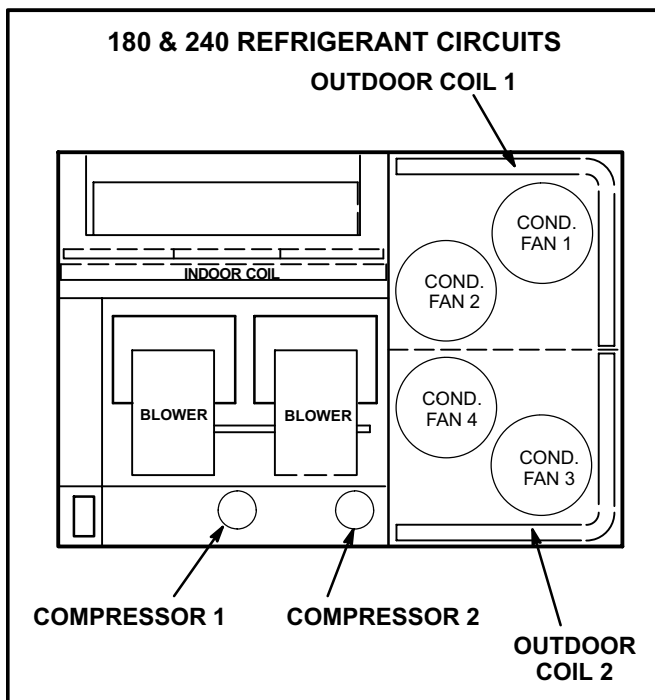

FIGURE 10
- 4- Units contain two refrigerant circuits or systems. See figure 10.